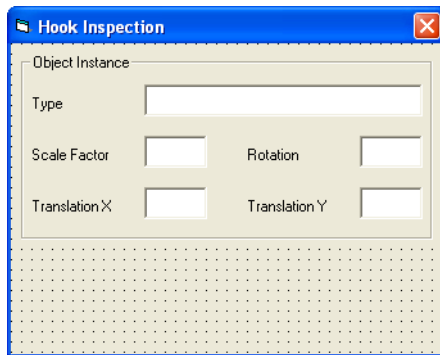

Figure 48 Visual C++ Dialog with Object Pose Information
3. On the dialog template, remove all existing dialog items and add a Group Box. Add 5 edit boxes respectively named **IDC_EDIT_TYPE**, **IDC_EDIT_SCALE**, **IDC_EDIT_ROTATION**, **IDC_EDIT_TRANSLATION_X** and **IDC_EDIT_TRANSLATION_Y**. Also set the Group Box caption, the edit box dimensions and add labels. The text for the edit boxes should be empty. Your dialog template should look like the dialog in Figure 48.